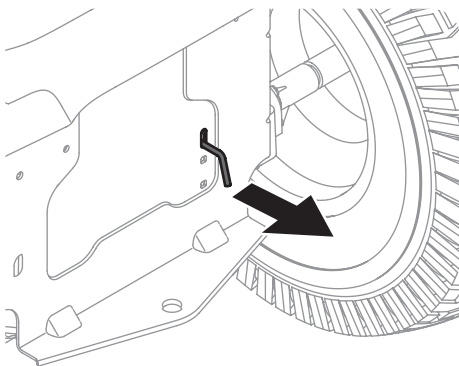

Figure 2-1
- Engage the transmission bypass rod to move the tractor manually without starting it. The transmission bypass rod is located on the rear of the tractor, on the frame. Engage the bypass rod by pulling out. See Figure 2-1.
- Disengage the bypass rod by pushing the rod back in after moving the tractor. See Figure 2-1.